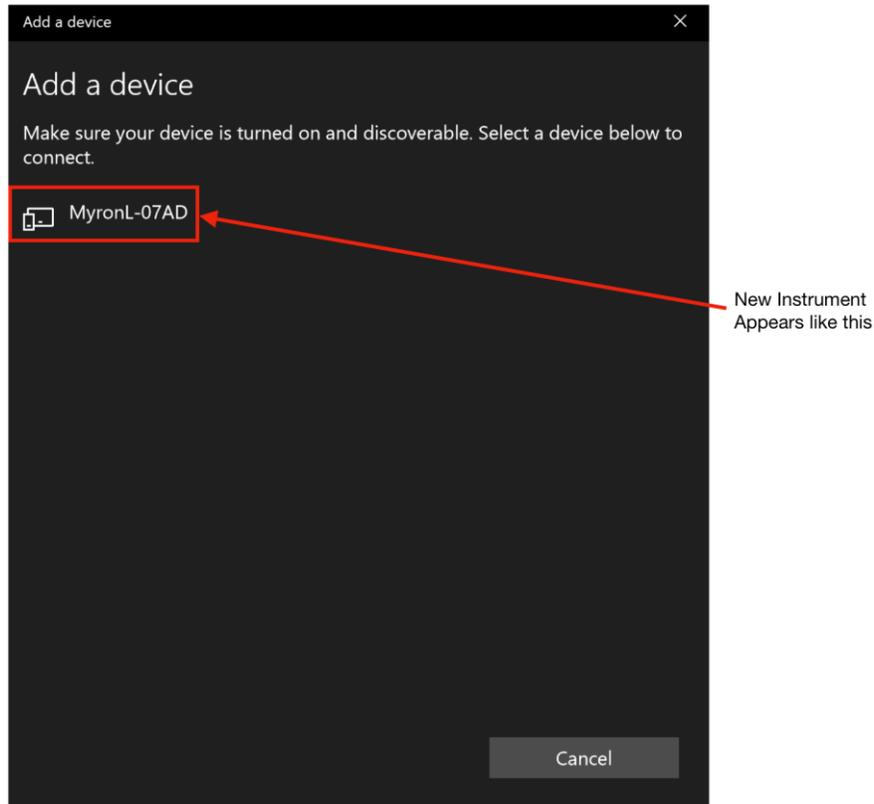

Figure 16
- a. The Myron L[®] Company instrument will appear as an available device as shown (Figure 16). It may take a moment to show up in the list.